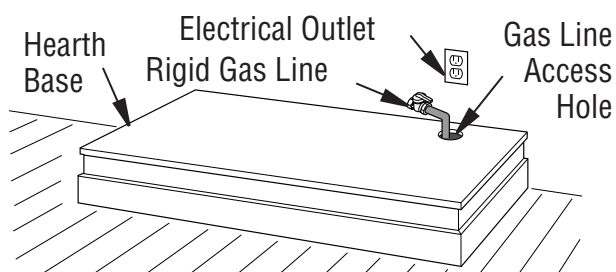

Figure 9 - Placing Hearth Base Accessory Against Wall
2. When installing blower, install a properly grounded, 120 volt three-prong electrical outlet at fireplace location if an outlet is not there. If possible, locate outlet so cabinet mantel will cover it when installed (see **Figure 9**).
4. Place hearth base accessory against wall at installation location. Cut an access hole in hearth top to run flexible gas line to fireplace (see **Figure 9**). Make sure to locate access hole so cabinet mantel will cover it when installed. **NOTE:** You can secure base to floor using wood screws. Countersink screw heads and putty over.